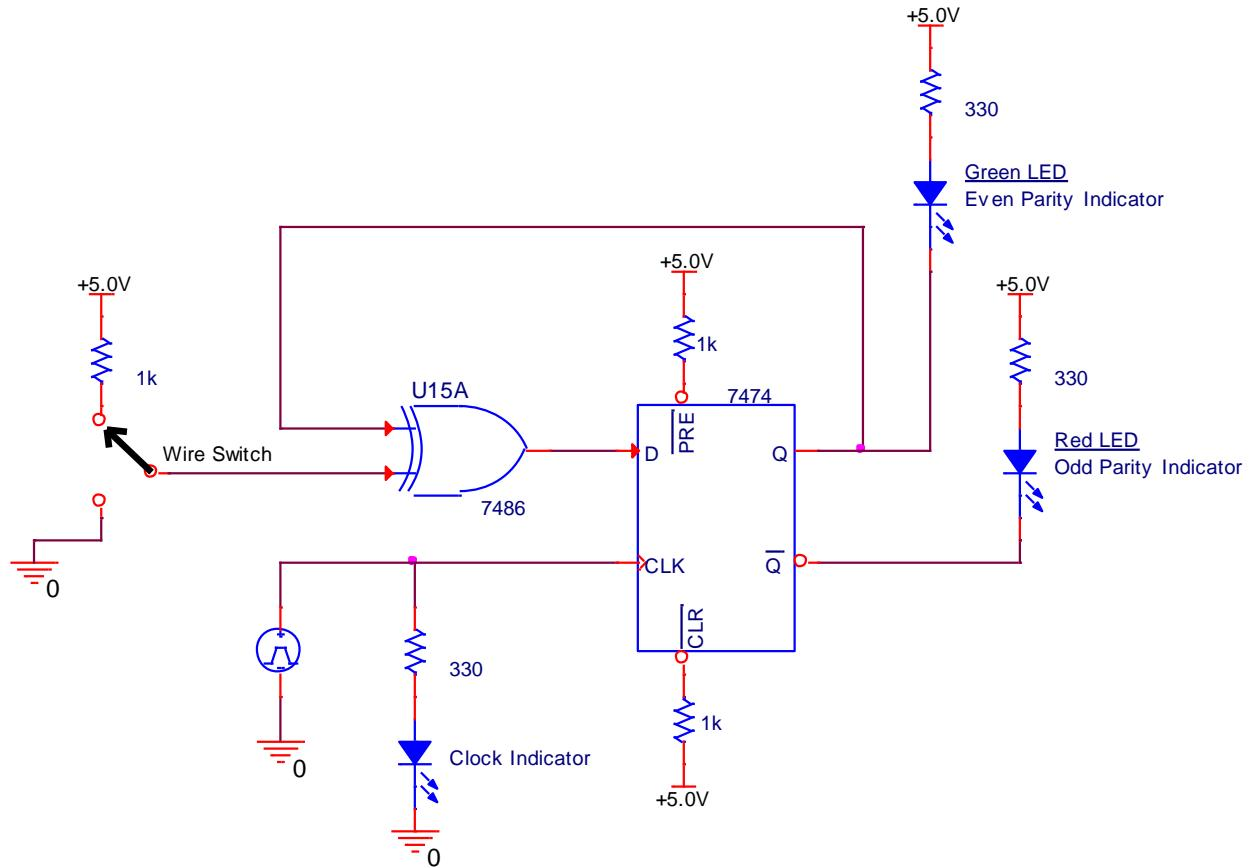

Figure 10.8: Parity Test Circuit
15. Construct the circuit shown in Figure 10.8. Connect the D input to a pulse generator set to 1 Hz, 5Vpp, 2.5V DC off-set.
6. The serial parity test circuit in Figure 10.8 uses a D flip-flop. Why wouldn't a D latch work just as well?